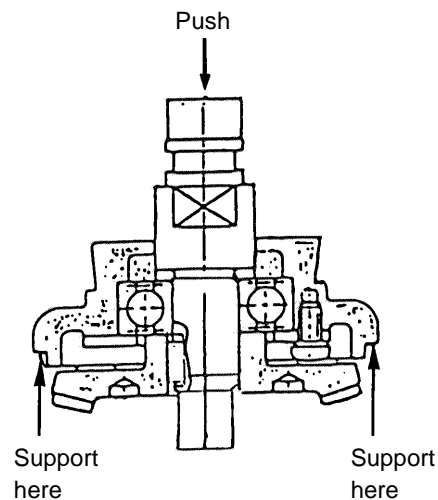
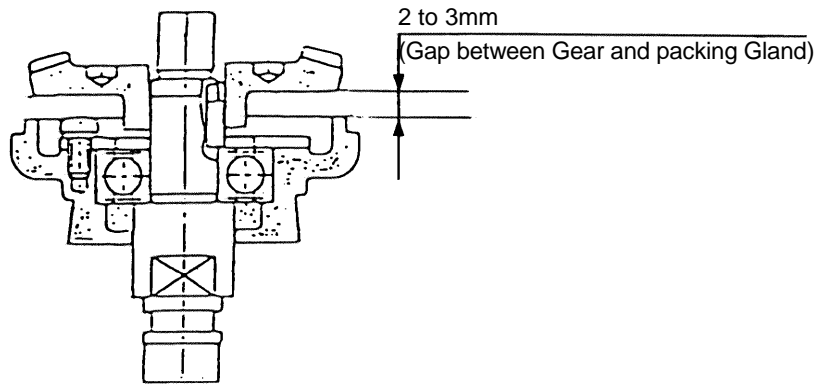

Fig. 2-3
Fig. 2-4
- (b) Turn the Packing Gland (26) over, support it as shown in Fig. 2-3, and push the Spindle (29) downward approximately 2 mm. In this way, expand the gap between the Gear (20) and Packing Gland (26) as shown in Fig. 2-4.